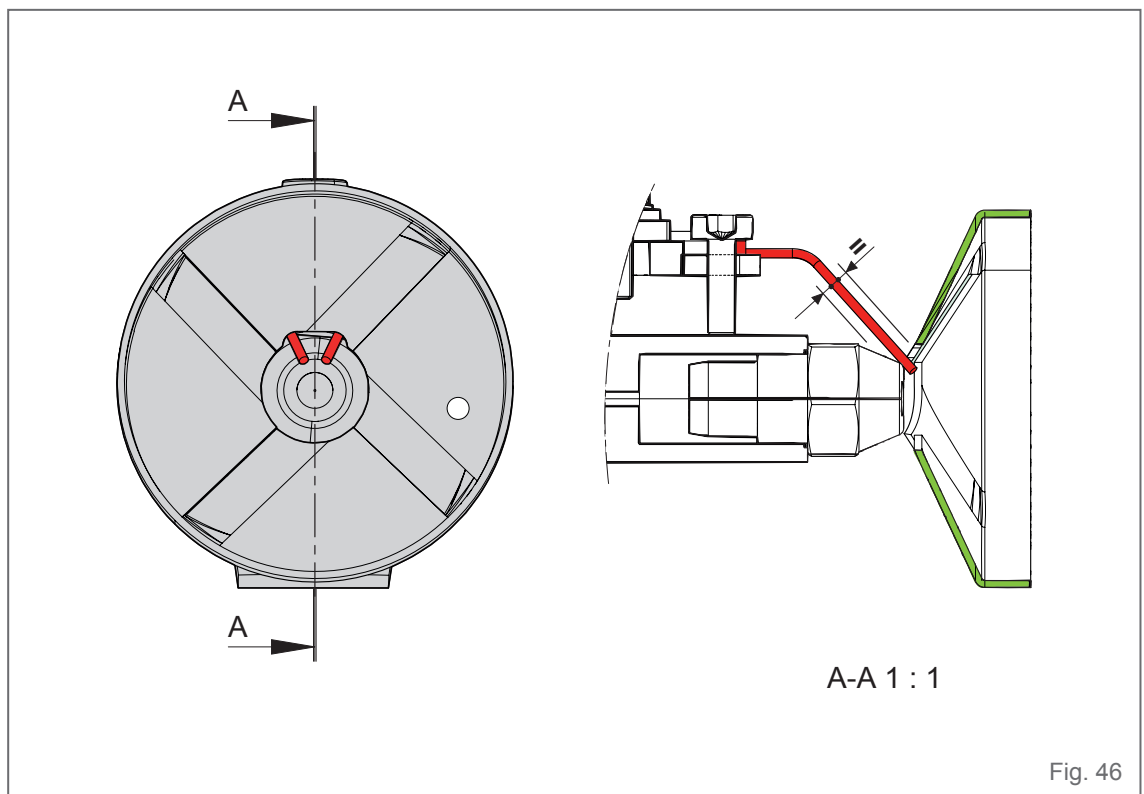

Fig. 46
- Check the position of the electrodes assuring that they are centered as shown in "Fig. 46".